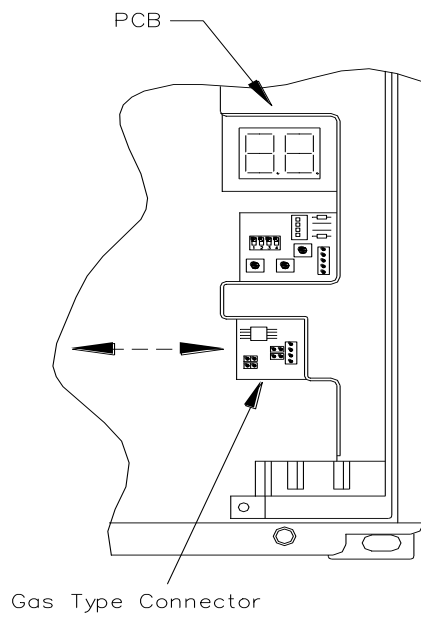

Figure 5
12. **Using an insulated tool, adjust the minimum and maximum burner gas pressures (Figure 5) to that required for the size, model and gas type (refer to specifications table on page Error! Bookmark not defined.) following the Burner Gas Pressure Adjustment procedure on page 52.**